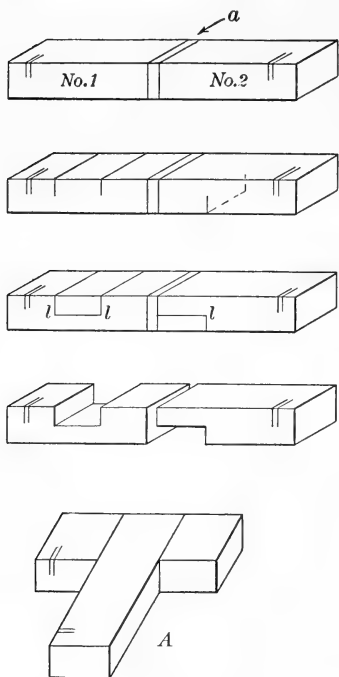

FIG. 50. Successive Steps in laying out and making a Middle Lap Joint
23. Laying Out. Let it be assumed that the exercise to be executed is the middle lap joint shown at *A*, Fig. 50.